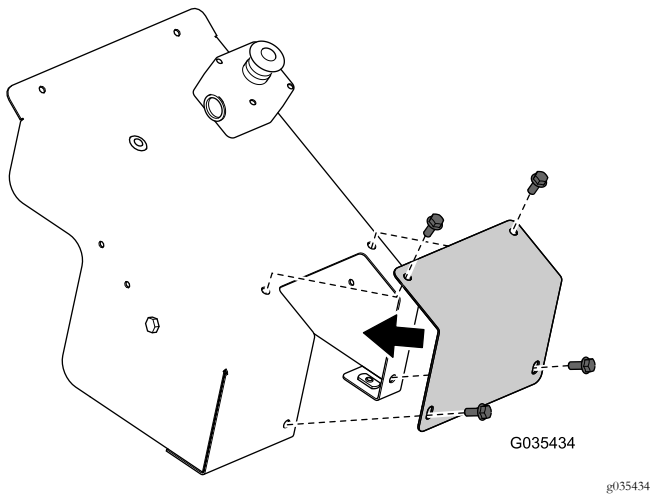

Figure 21
12. Install the previously removed manual override cover onto the cover with the corresponding hardware (Figure 21).